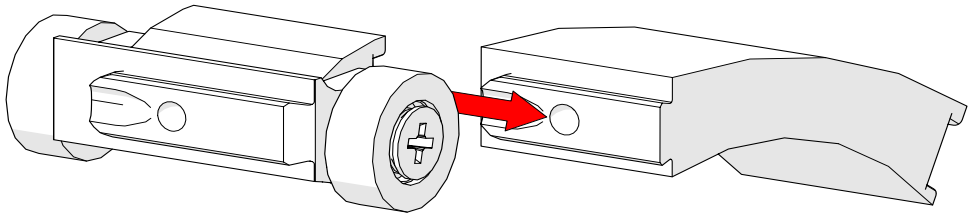

Fig. 99 - Slide links together
2. Align the two links horizontally and slide them together (Fig. 99).